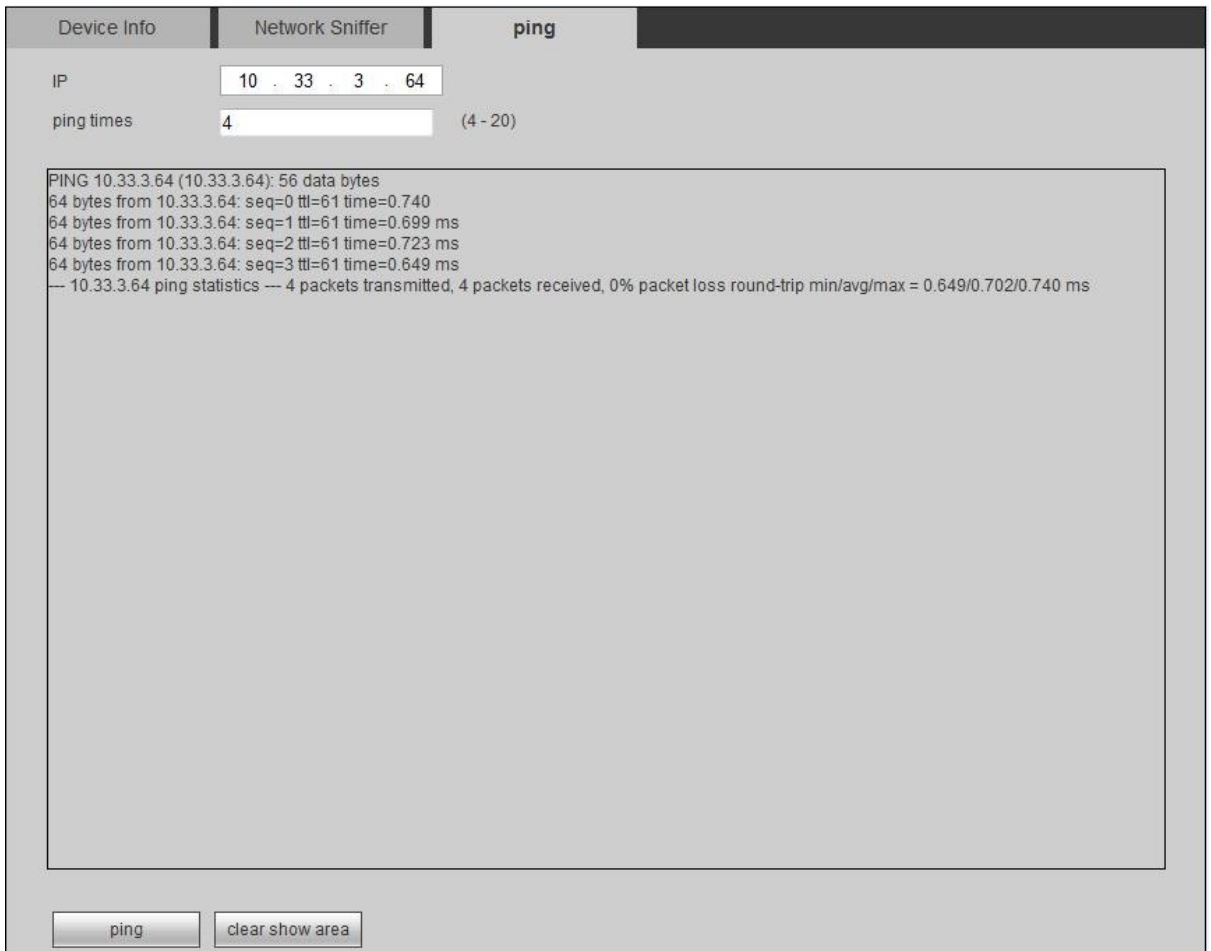

Figure 4-117
- Step 2 Input IP address and ping times; click "ping". The interface displays ping info after several seconds, as shown in Figure 4-117.